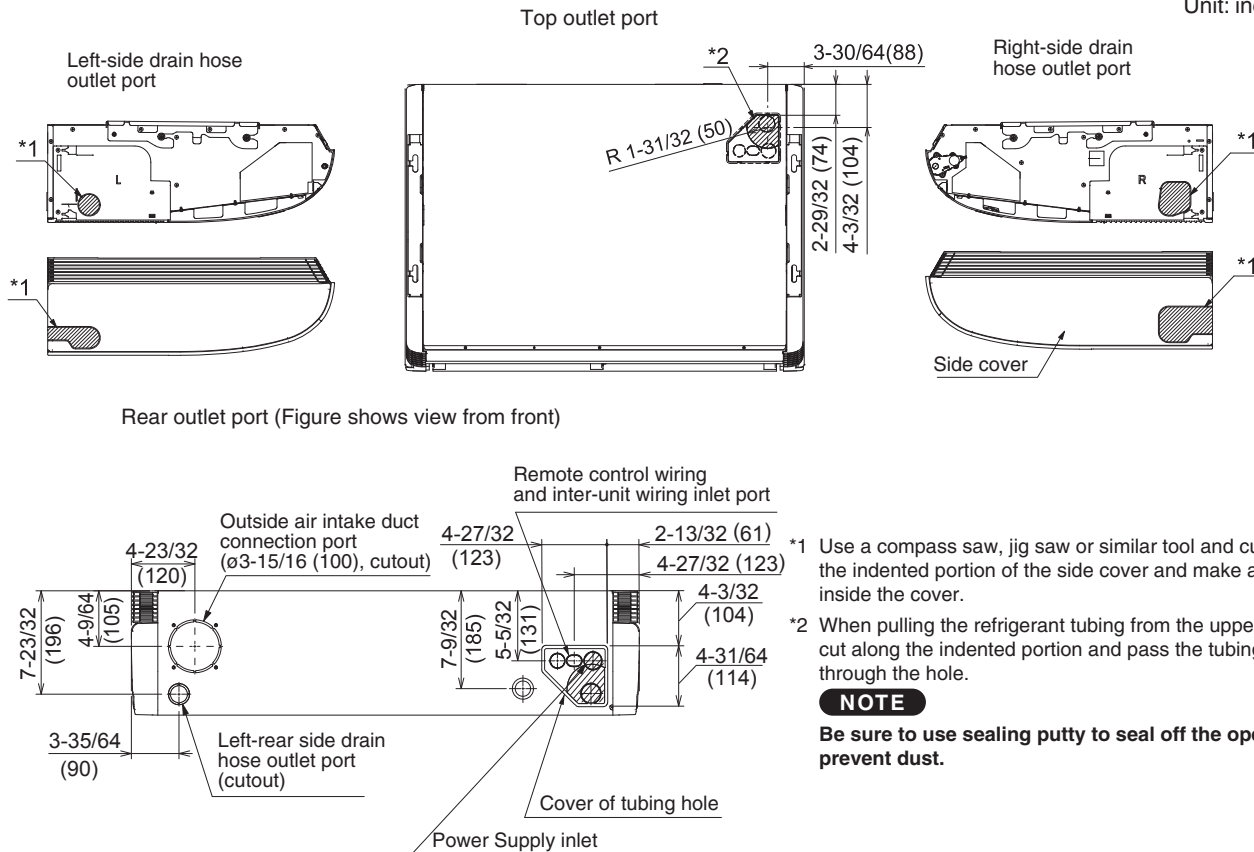

Fig. 3-3
There is a outside air intake duct connection port (cut out hole) at the left-rear of the indoor unit for drawing in fresh air. If it is necessary to draw in fresh air, remove the cover by opening the hole and connecting the duct to the indoor unit through the connection port. (Refer to Fig. 3-3)
- * When routing the tubing out through the top or right sides, cut out the cover of the top panel and cut notches in the side panel (Refer to Fig. 3-3).